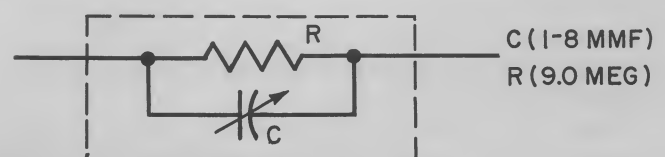

Fig. 2-2. Low-capacitance probe.
a. *What It is and Why It is Used.* Refer to "Input Impedance" of the oscilloscope. A low-capacitance probe extends the usefulness of an oscilloscope by reducing the loading effects of the scope in high-impedance circuits. Essentially, a low-capacitance probe consists of a large resistor ( $R$  in Fig. 2-2) in parallel with a small capacitor ( $C$  in Fig. 2-2) in a suitably shielded insulated probe and with proper facilities for connection either to the direct probe of the scope or to the vertical input of the set itself. The impedance of the probe is effectively in series with the input  $Z$  (a parallel combination of  $C$  input and  $R$  input) of the scope. Therefore, the total impedance that the probe and scope present to the circuit is much higher than that of the scope alone.
Reference to Fig. 2-2 indicates that  $C$  is variable. It is made variable so that it may be adjusted to the scope and cable. When  $C$  is properly adjusted, the broadband response of the scope is unaltered. To accomplish this, the time constant  $C \times R$  is made equal to  $C_{in} \times R_{in}$  (input  $Z$  of scope). It should be noted that addition of a low-capacitance probe reduces the amplitudes of the signal applied to the scope input. In the example cited this is reduced to one-tenth of its original value.